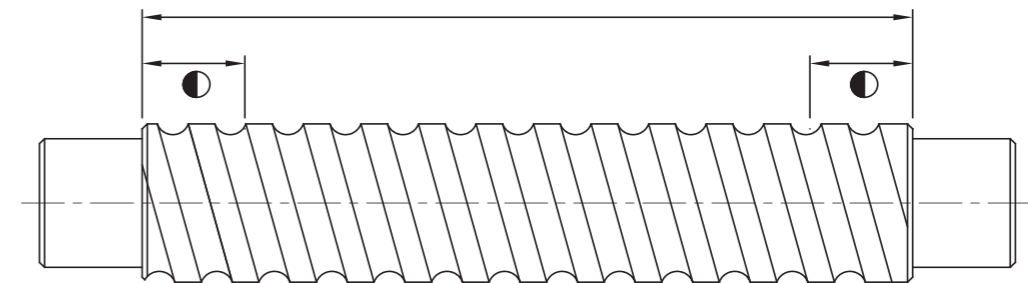

Figure 1.10.5 Effective heat treatment range of screw
2. During screw heat treatment, the thread teeth near the shoulder must be kept soft for 10-20mm in length to facilitate shoulder machining. This area will be marked on the drawing, as shown in Figure 1.10.5. If you have special requirements, please inquire with SHAC business personnel when placing an order.